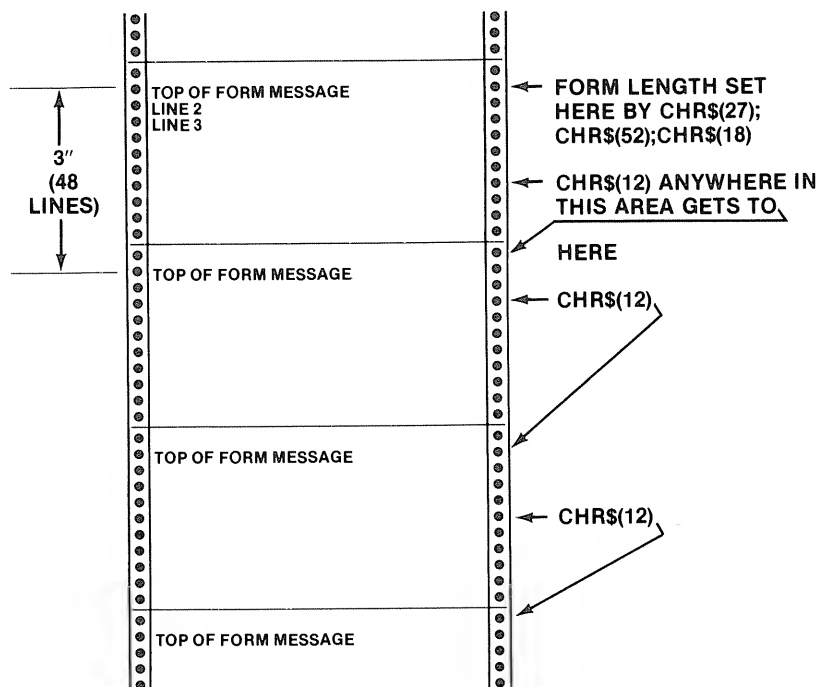

Figure 7-9. Top of Form Spacing
Having set the form length, how do you control the form spacing or page-eject? This is done through a top-of-form character—a CHR\$(12). The CHR\$(12) *is not* sent to the printer in most BASICs; it's usually intercepted by BASIC or the operating system software and a series of line feeds are sent to the printer instead, based on a line count and form length held *in BASIC*. However, if a CHR\$(12) does get to the printer via an assembly language program, the CHR\$(12) would cause this action: The printer would compare the current line count with the number of lines per form. It would then space the paper until the same position on the next page was reached, as shown in Figure 7-9. Executing a series of CHR\$(12) commands would space three inches for every CHR\$(12).